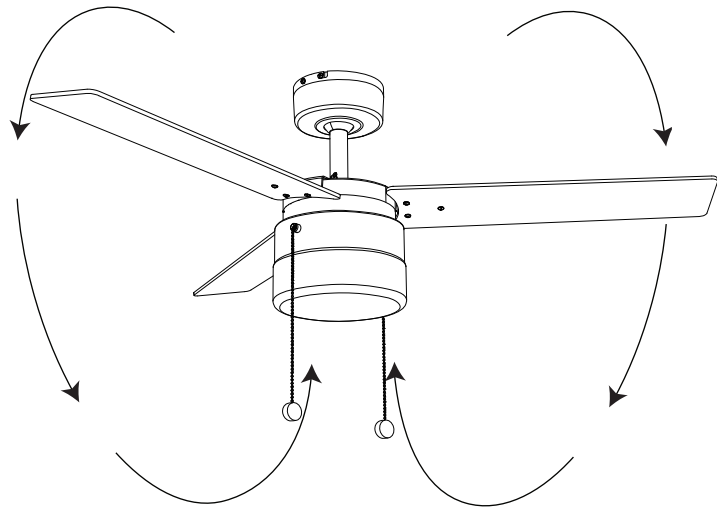

Figure 16
**Cool weather - (Reverse)** An upward air flow moves warm air off the ceiling area as shown in Figure 16. This allows you to set your heating unit on a lower setting without affecting your comfort.